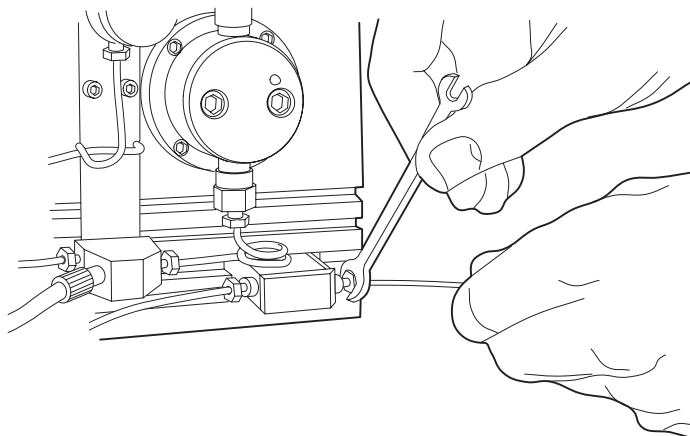

Figure 2-5 Connecting the Outlet Tube
1. While pressing one end of the tubing assembly into the pump outlet fitting, finger-tighten the compression screw, then use the 5/16-inch wrench to tighten the screw another 1/8-turn (see Figure 2-5).